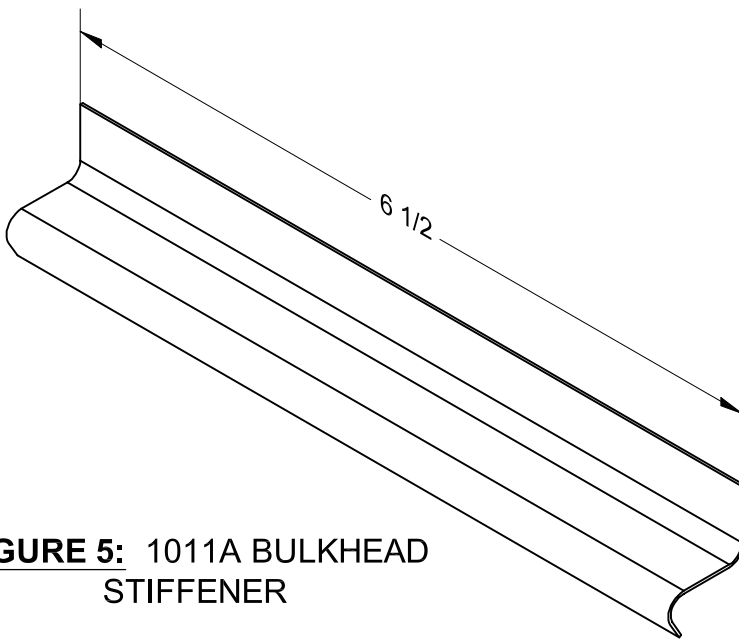

FIGURE 5: 1011A BULKHEAD STIFFENER
Step 6: Cut the **F-1011A** Bulkhead Stiffener, using the dimension shown in Figure 5, from one of the six foot lengths of J-channel provided in the kit. Deburr the edges.